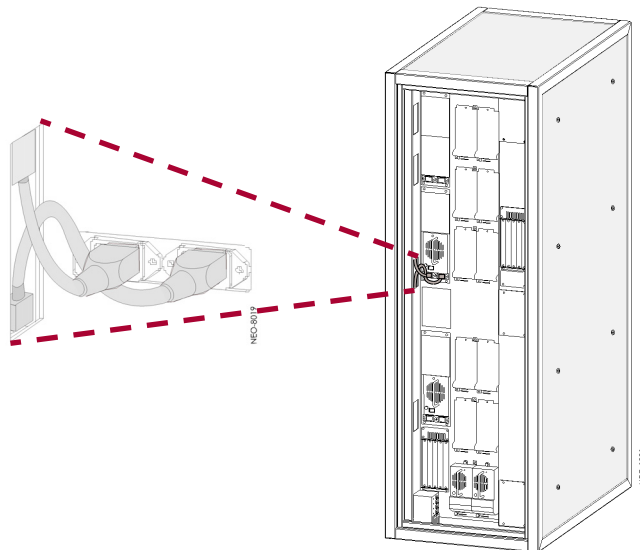

Figure 3-10: Location of Robotics Power Supply Bay Power Cords
2. At the Master unit, **unplug** the 2 short power cords from the Robotics Power Supply bay (middle left; see Figure 3-10).